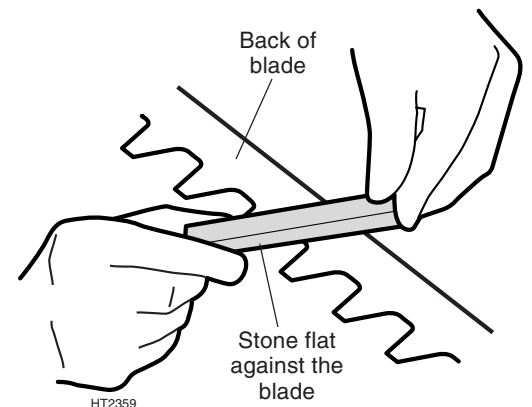

Figure 39. Removing burrs.
- STEP 6.** Turn the cutter over, and use a fine oil stone held flat to remove any burrs from the bottom faces of the individual cutter teeth (Figure 39).